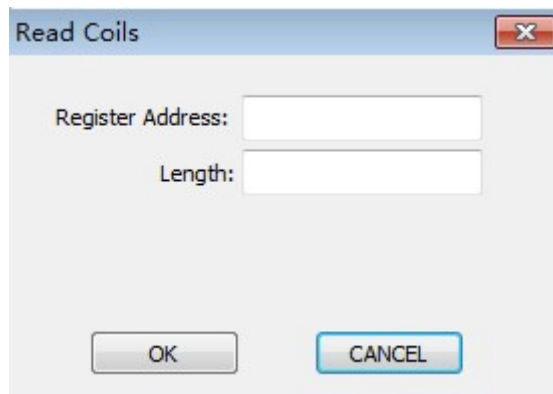

Figure 5.26 Read coil input
1. Click the "Calibration "->" Coil "->" Read Coil" and pop up the "Read Coil" window, as shown in Figure 5.26: